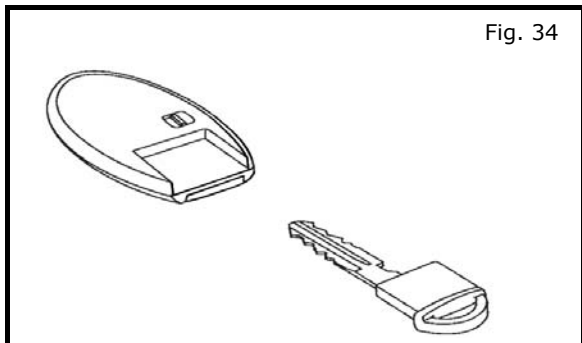

Fig. 34
- a) Insert keys into the new RES fobs as shown in Fig. 34.